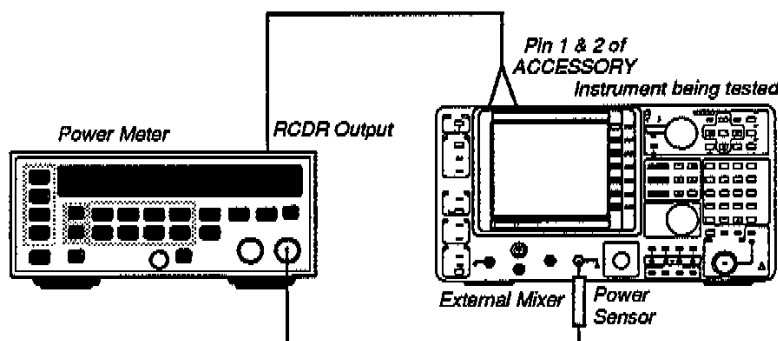

Figure 4-12. Test Equipment Connections for External Mixer Input LO Output Check.
2. Remove the 50 Ω terminator from the instrument EXTERNAL MIXER connector, and connect the power meter to the connector (as shown in Figure 4-12). Use the Hewlett-Packard HP 8481A meter sensor head with the power meter. The sensor head requires a N-to-SMA connector.